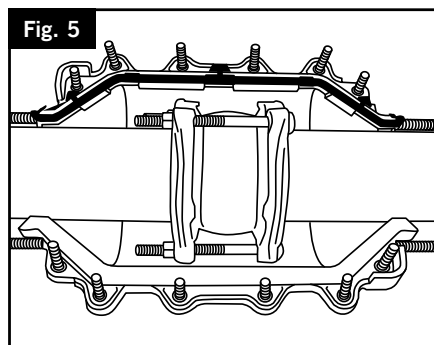

Fig. 5
- 4) Place one of the clamp shells underneath the leaking joint, you may require packing blocks to hold the underside clamp shell into position. **Please note that the bolts may be positioned in either orientation.** (FIG 5)